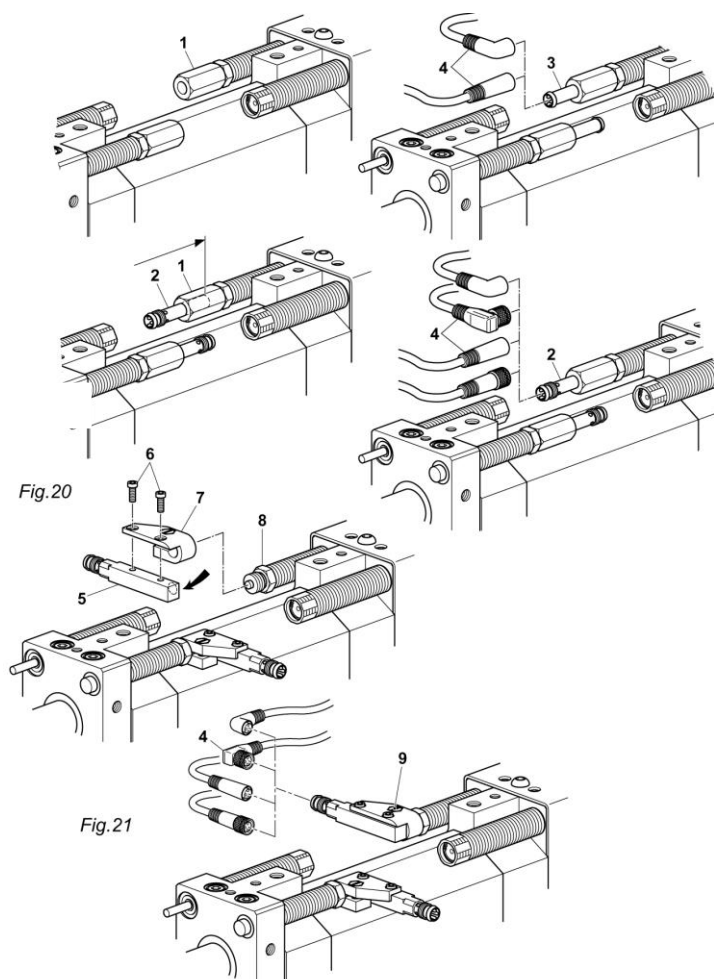

Fig. 15 Mounting initiator 6.5 mm
1. Screw the initiator holder (Fig. 15, 1) onto the stop screw.
2. Insert the initiator (Fig. 15, 2) into the initiator holder as far as it will go.
3. Slightly tighten the initiator holder (Fig. 15, 1).
4. Mount the connector (Fig. 15, 4).